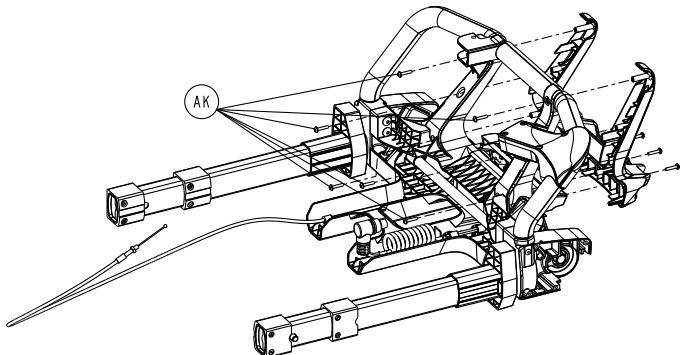

Figure 74 – Remove the foot end housing screws
8. Using a T20 Torx driver, remove the six round washer head tapping screws (AK) from the back of the foot end housing (Figure 74). Save the screws.